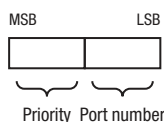

Figure 37: Port Identifier
- ▶ When multiple paths with the same root path costs lead from one bridge to the same bridge, the bridge further away from the root uses the port identifier of the other bridge as the last criterion (see figure 37). In the process, the bridge blocks the port that leads to the port with the numerically higher ID (a numerically higher ID is the logically worse one). When 2 ports have the same priority, the port with the higher port number has the numerically higher ID, which is logically the worse one.